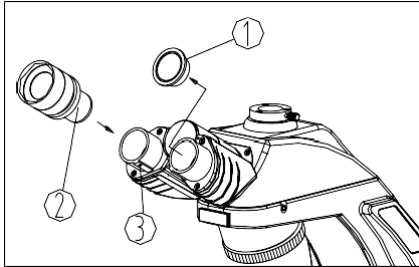

Fig.7
- (1) Take down the cover of eyepiece tube①.
- (2) Insert the eyepiece② into the eyepiece tube, until it touches the surface (see Fig. 7).
- (3) When adjusting diopter with adjustable eyepiece, lock eyepiece with hexagon lock-screw ③ to avoid the eyepiece group② rotating in eyepiece tube, as the figure shows.